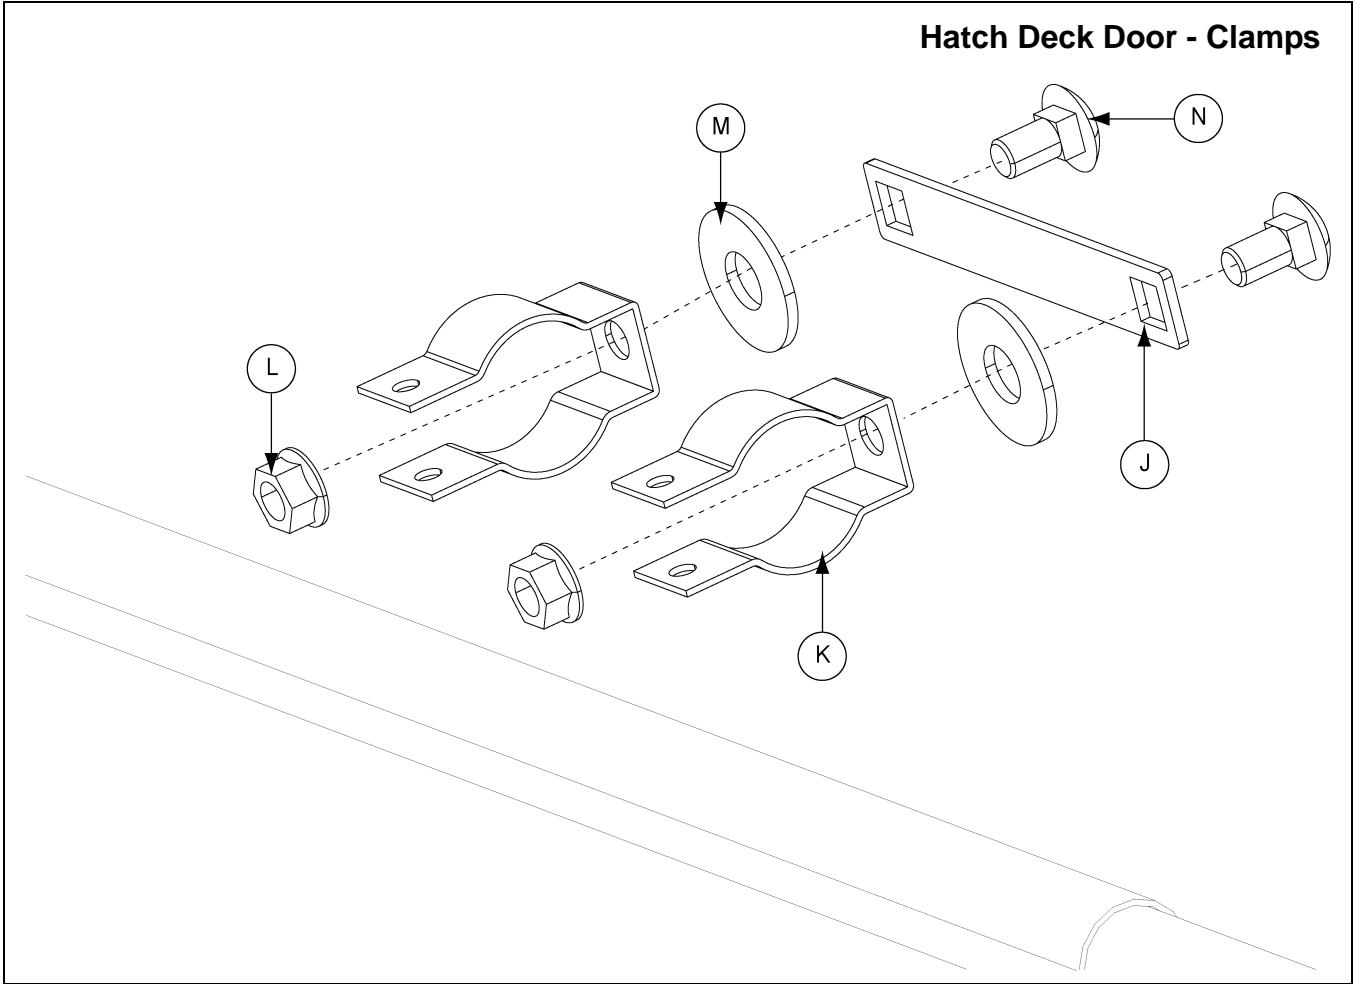

Figure 9E
- 7. Assemble pipe clamps (S-10139) to the magnet mount hatch bracket (HP1648LMM). Insert 3/8" x 3/4" carriage bolts through the magnet mount hatch bracket, 1/2" flat washer and pipe clamp. Fasten with 3/8" nut. (See Figure 9E.)